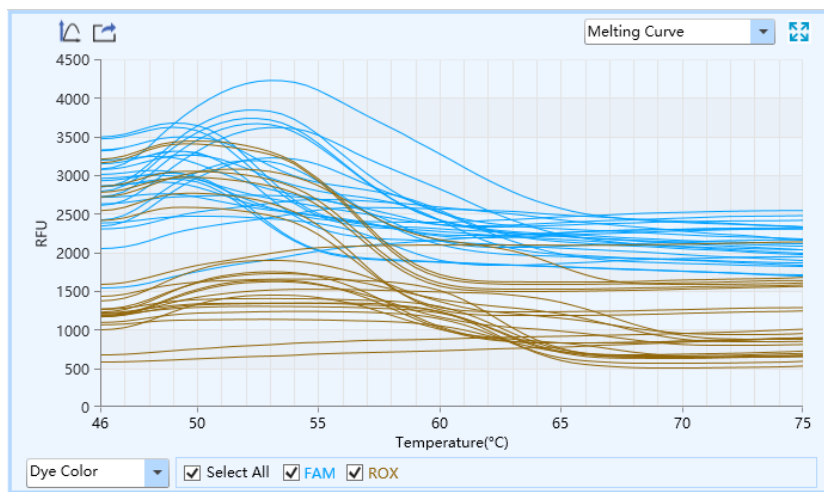

Figure D-13.1. Melting Curve Analysis Interface - Melting Curve Functional Module
I. Melting Curve: display the fluorescence intensity against the temperature, as shown in figure D-13.1.